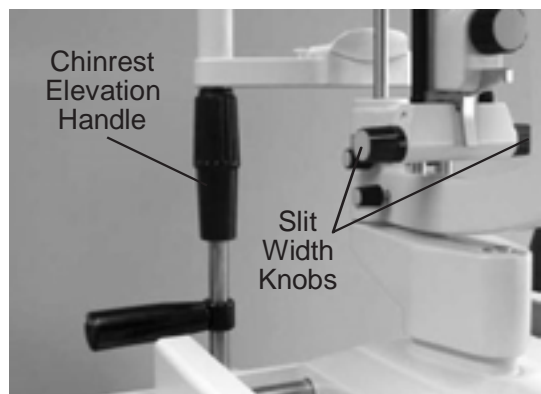

Figure17 Adjust Patient Height
6. To position a patient, adjust the chinrest height by turning the Chinrest Elevation Handle on the post of the Chin Rest Assembly until the patient's canthus is in line with the Canthus Mark on the chin rest post. Refer to Figures 17 and 18.
11. The slit width can be adjusted by rotating the Slit Width Knobs. Refer to Figure 17.